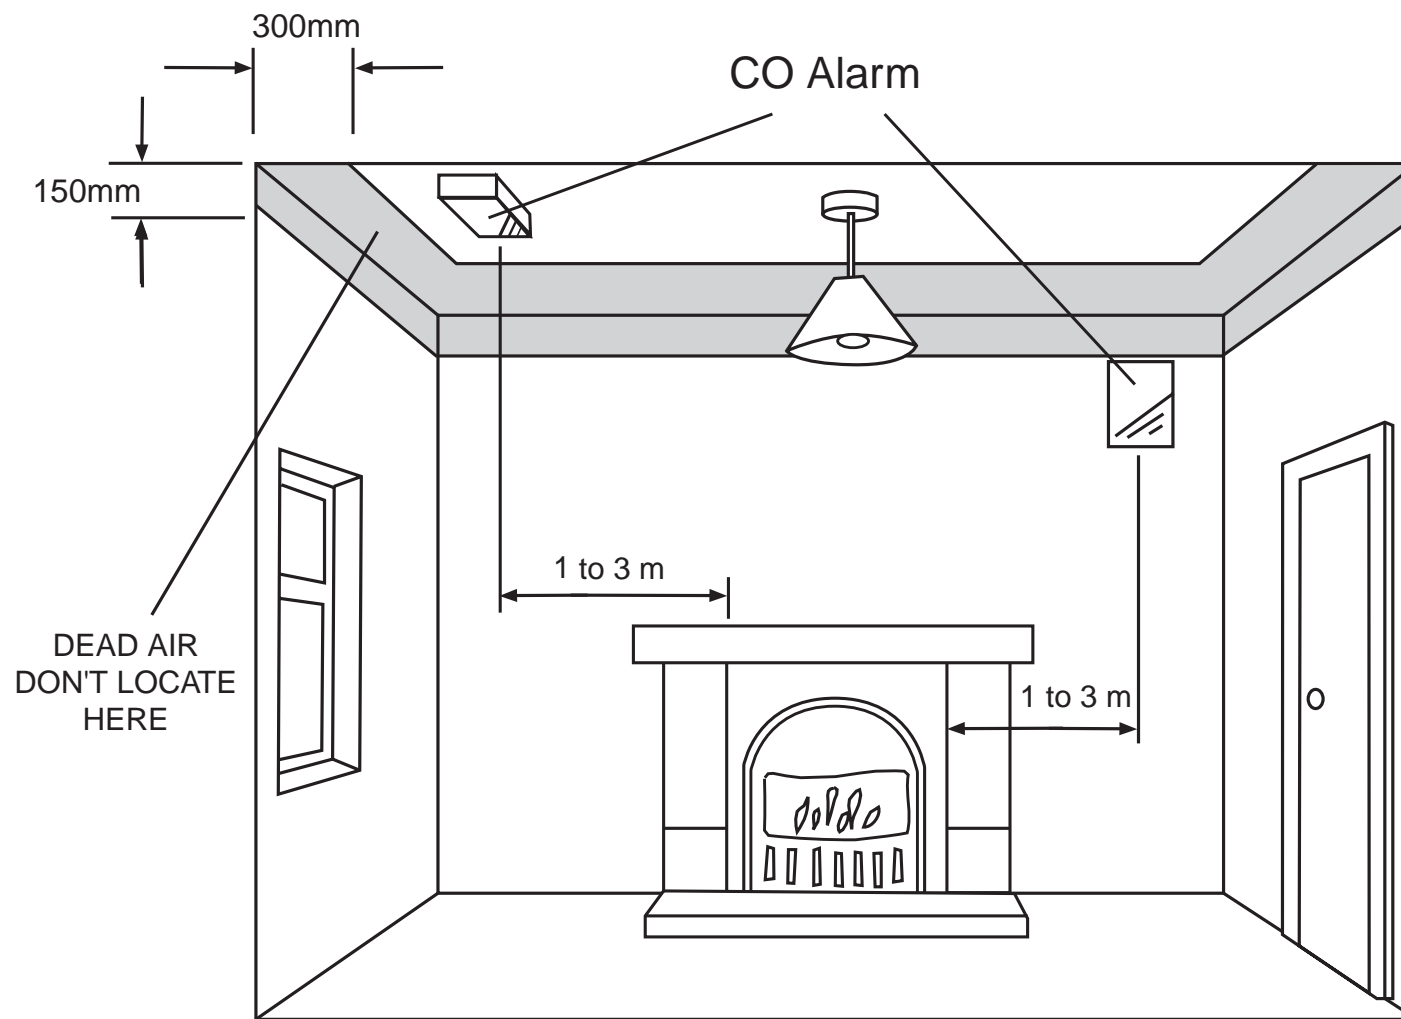

Figure 1. Location in room with a fuel burning appliance
3.3 IF LOCATING THE CO ALARM IN A ROOM WITH A FUEL BURNING APPLIANCE (see *Figure 1*)